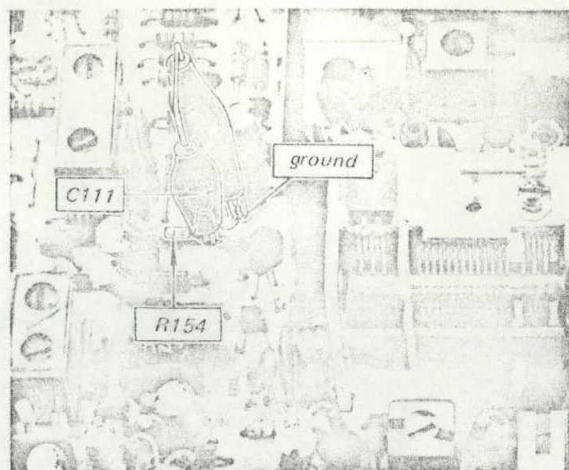

Fig. 3-8. Interruption of AFC circuit
- Short the connection point of R154 and C111 (AFC circuit) to ground as shown in Fig. 3-8.